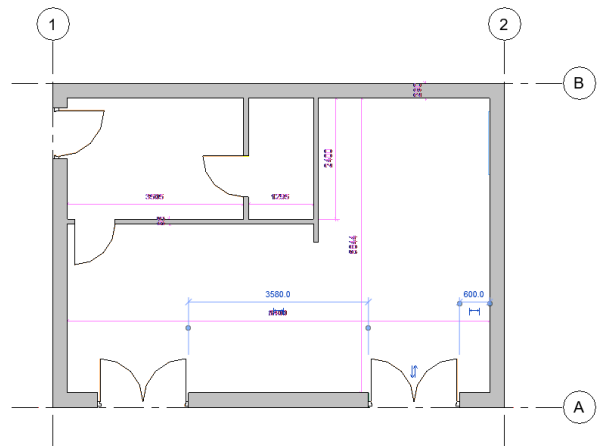

Figure 46. Completed model in Floor Plan view.
**46.** The floor plan view should now look like Figure 46.